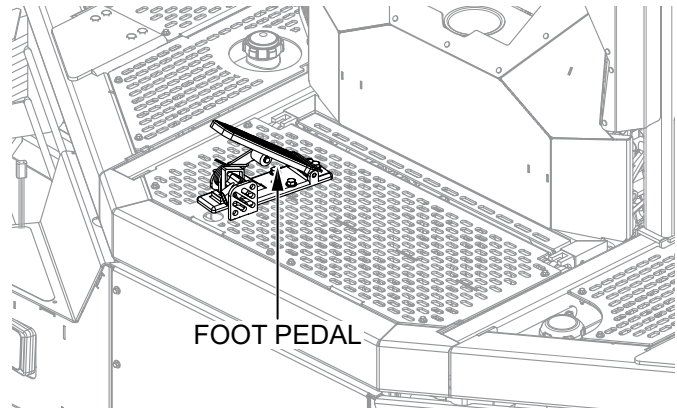

Figure 45. Foot Pedal
- The **foot pedal** (Figure 45) controls rotor speed when cruise control is disengaged. The position of the foot pedal determines the rotational speed of the blades. Slow blade speed is obtained by slightly depressing the foot pedal. Maximum blade speed is obtained by fully depressing the foot pedal.